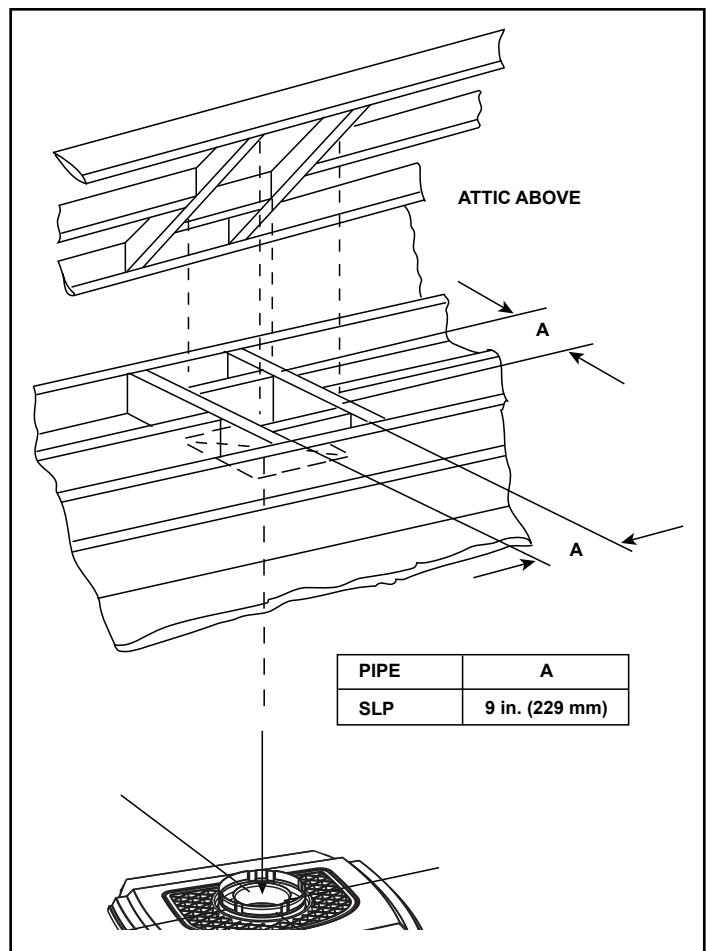

Figure 5.3 Installing Ceiling Firestop
- **SLP Pipe** - Frame opening 9 in. x 9 in. (229 mm x 229 mm) whenever the vent penetrates a ceiling/floor (see Figure 5.3).